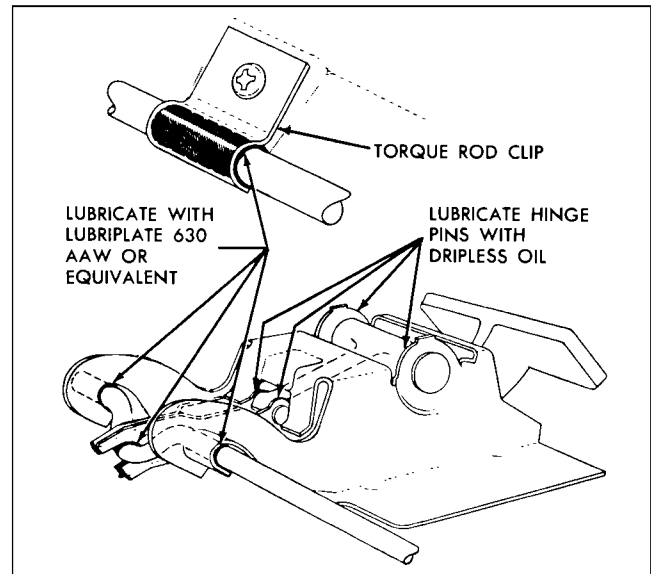

Fig. 10A-59 Back Door Hinge and Torque Rod Lubrication
5. Lubricate both right and left hinge pivot pins with an approved dripless oil (Fig. 10A-59). Lubricate torque rod frictional surfaces on both hinges and frictional surfaces of both torque rod clips with Lubriplate 630 AAW or equivalent (Fig. 10A-59).